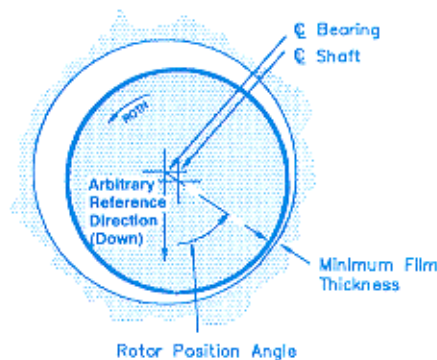

Figure 3
- Rotor Position Angle (Figure 3) as an indicator of abnormal or changing preloads (unidirectional, steady state loads).